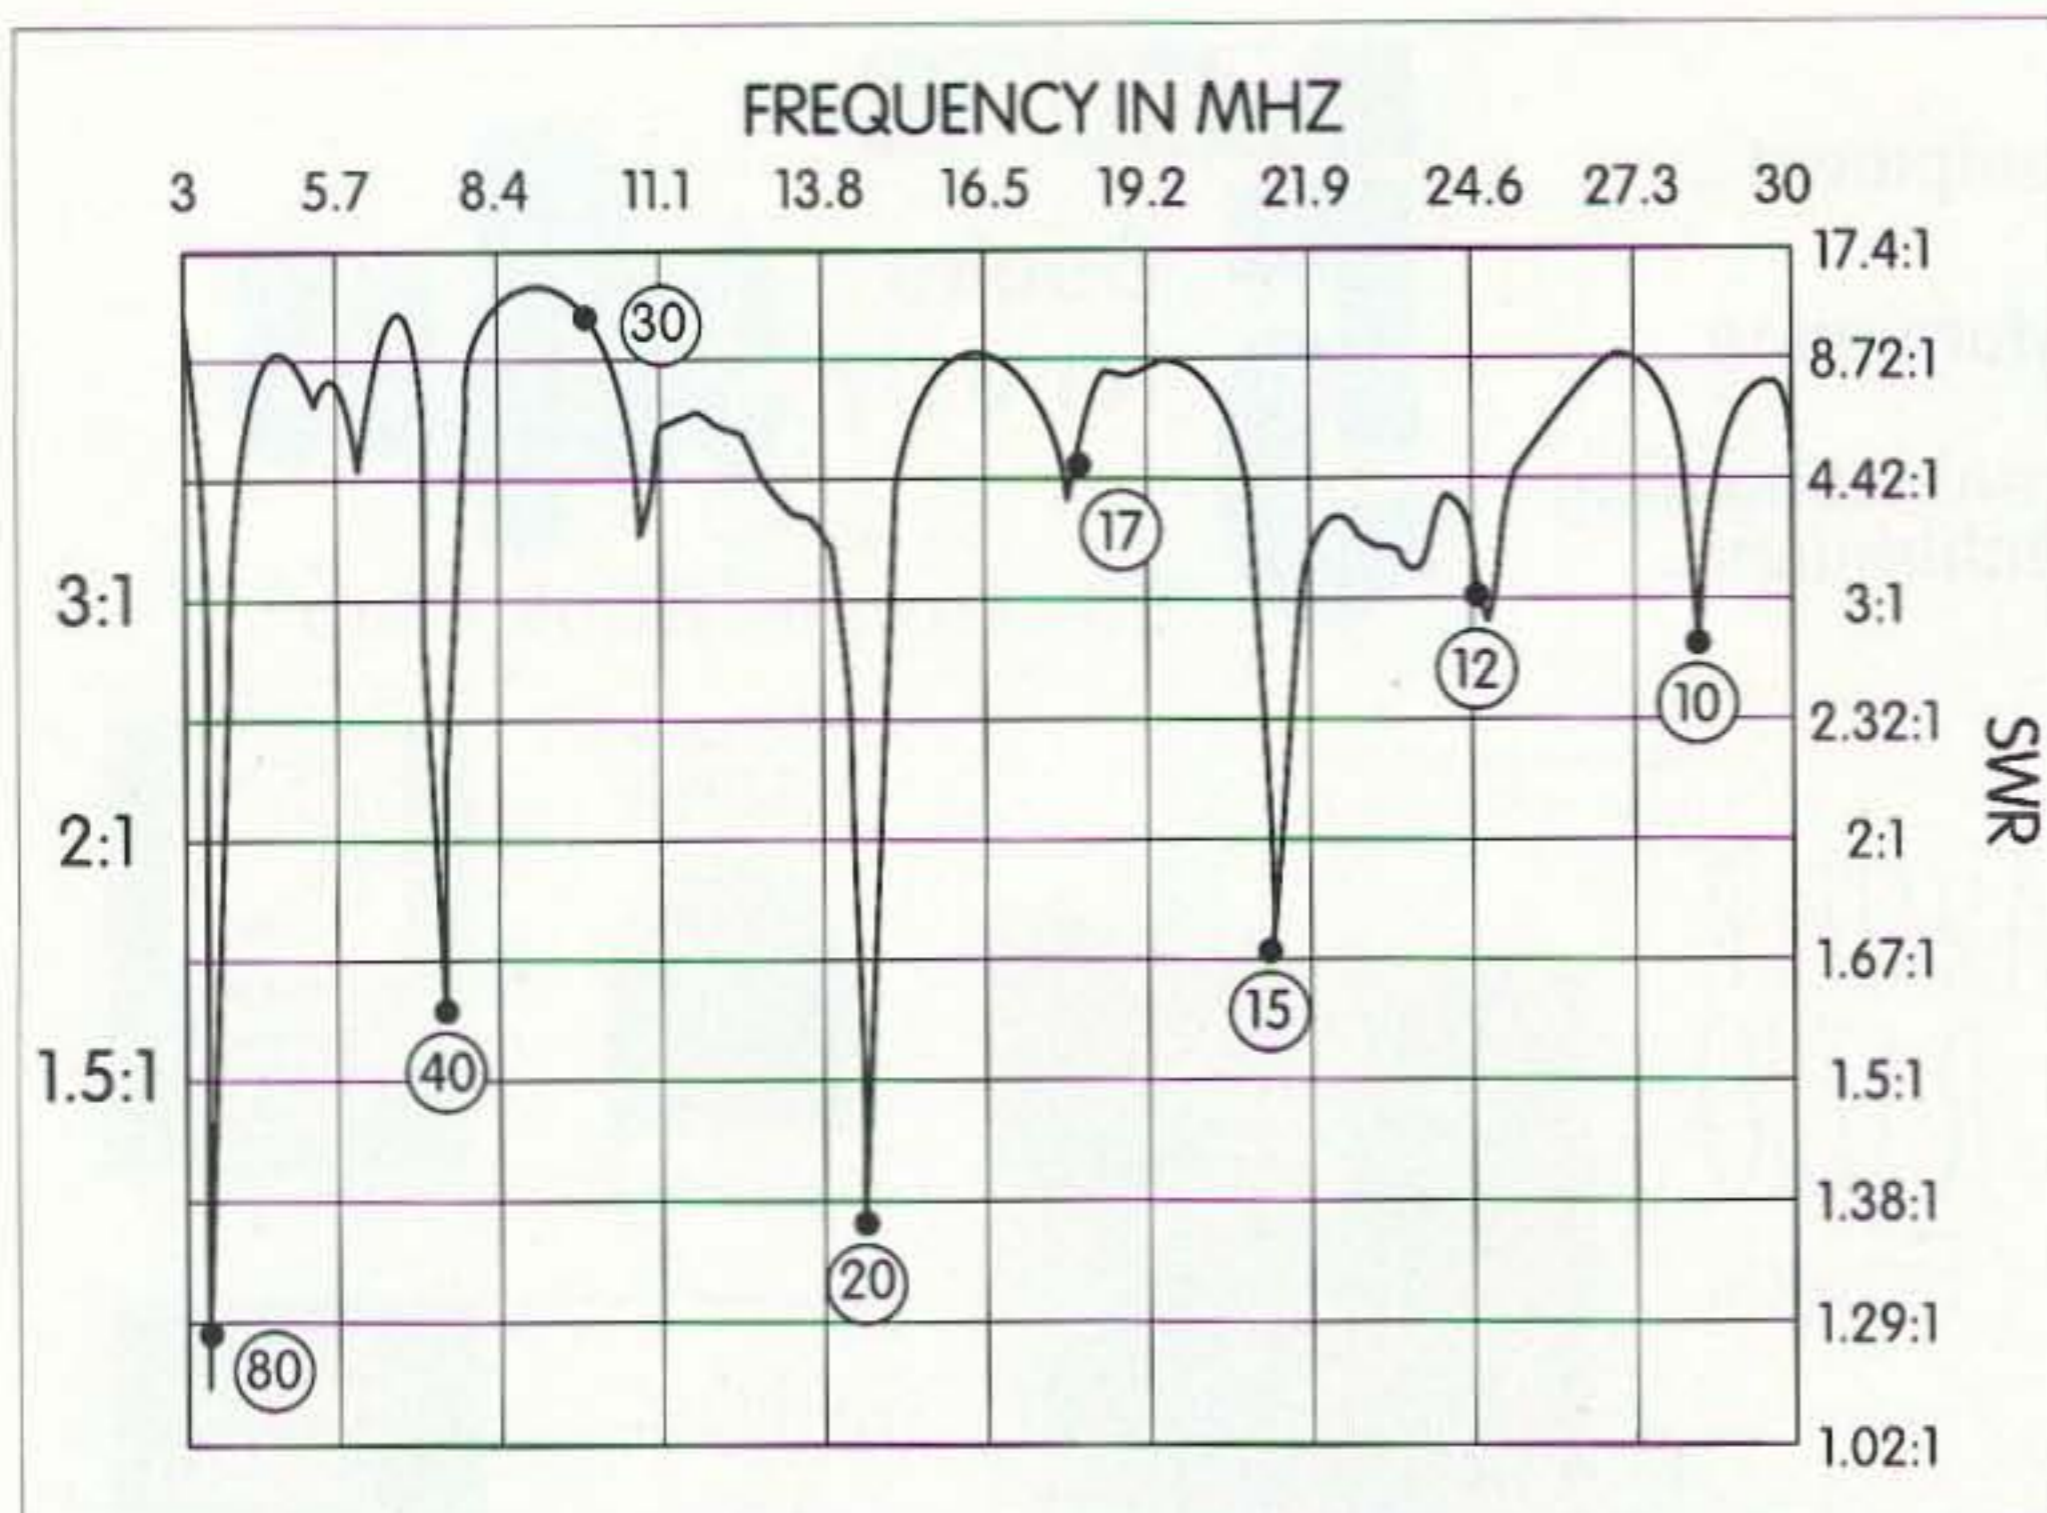

Fig. 1. All bands chart, Relative SWR vs. frequency for the 80 m loop, as measured with a Hewlett-Packard 3577A Network Analyzer.
- SWR of less than 3:1 (see **Fig. 1**) at some point in every HF band, allowing the built-in automatic antenna tuners in most new HF rigs to provide a proper power transfer to the antenna.